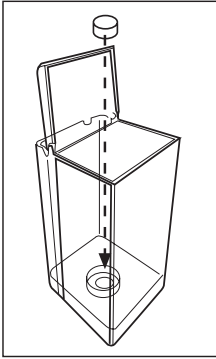

Fig. 19
- Fit the adapter into the tank as far as it will go (**Fig.19**)